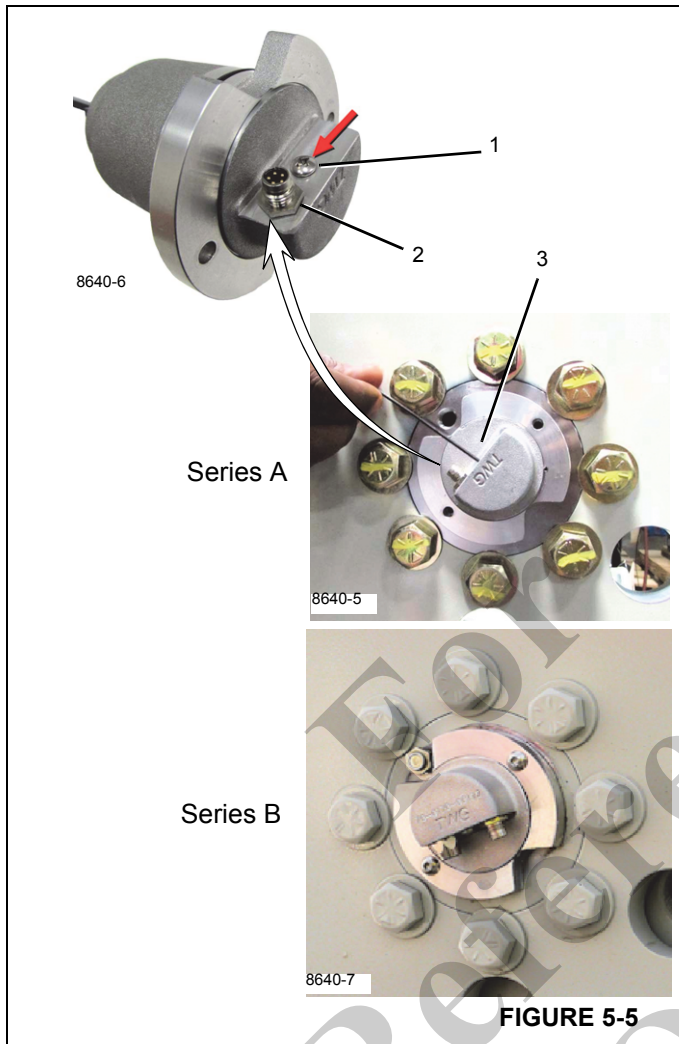

FIGURE 5-5
2. Remove power from the MWI by disconnecting the DRI cable (2, Figure 5-5).
3. Remove the sealed Hoist Monitoring System (HMS) programming button cover screw (1, Figure 5-5) on the DRI.
4. Push and gently hold the programming button (3, Figure 5-5) and return power to the MWI by reconnecting the DRI cable.
**NOTE:** Holding the button for longer than 15 seconds puts the HMS into Shipping Mode for Series A units. (See Figure 5-5). See Shipping Mode for more information.
**NOTE:** Failure to replace the programming screw (1, Figure 5-5) could effect the operation of the MWI.
3. Remove the programming button cover screw (1, Figure 5-5).